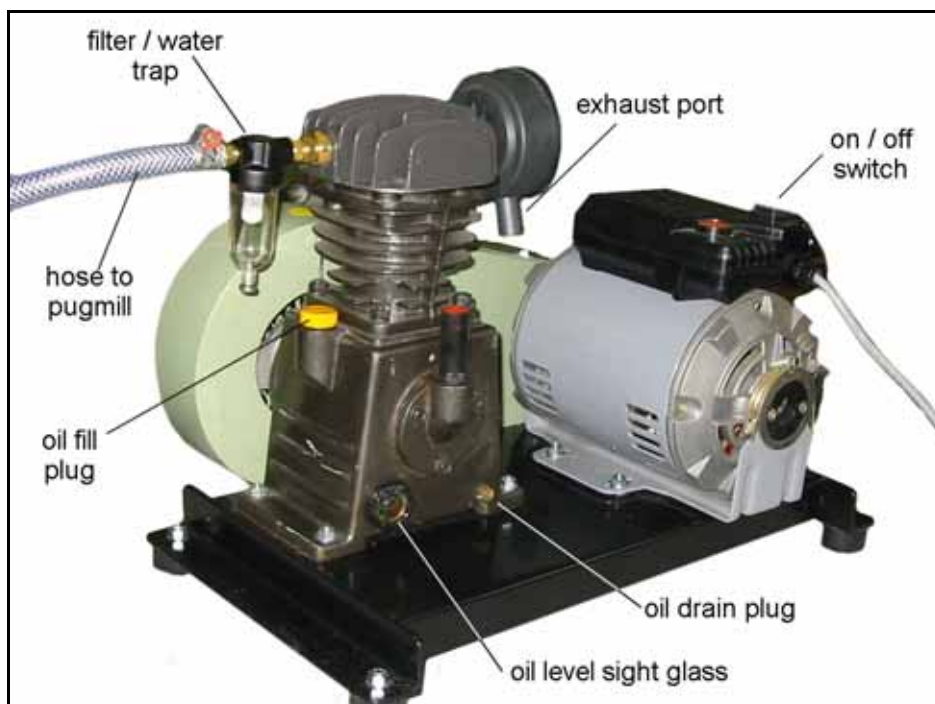

Figure 3: Components of the vacuum pump
2. Screw the filter / water trap onto the brass fitting on the cylinder of the vacuum pump. The clear bowl should be facing downward. See Fig 3.